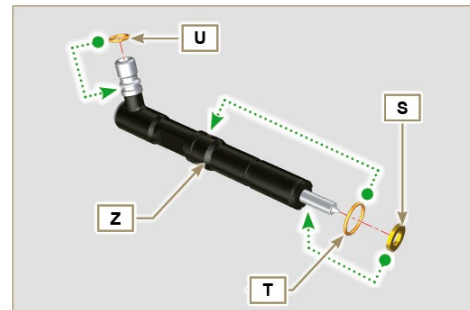

Fig 9.60
3. Secure the rocker arm pin **BB** tightening the screws **BE** (tightening torque to **25 Nm**). Adhere to the screw tightening sequence **BE** as shown in Fig. 9.60.